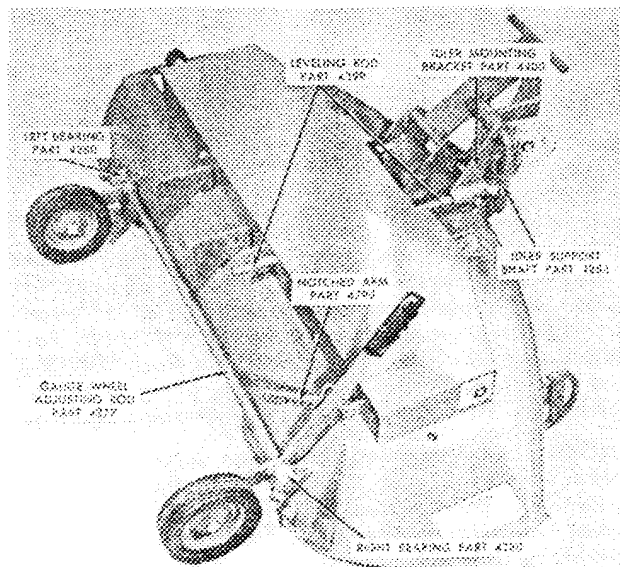

Figure 1
Install idler mounting bracket, Part 4400, by inserting leveling rod, Part 4399, through deck as shown in Figure 1. Insert idler support shaft Part 4286, into idler mounting bracket and deck as shown in Figure 1. Secure with (4) $\frac{3}{4}$ " washers, Part S-57-59 and (4) $\frac{5}{32}$ x $1\frac{1}{2}$ " cotter pins, Part 932026-4.